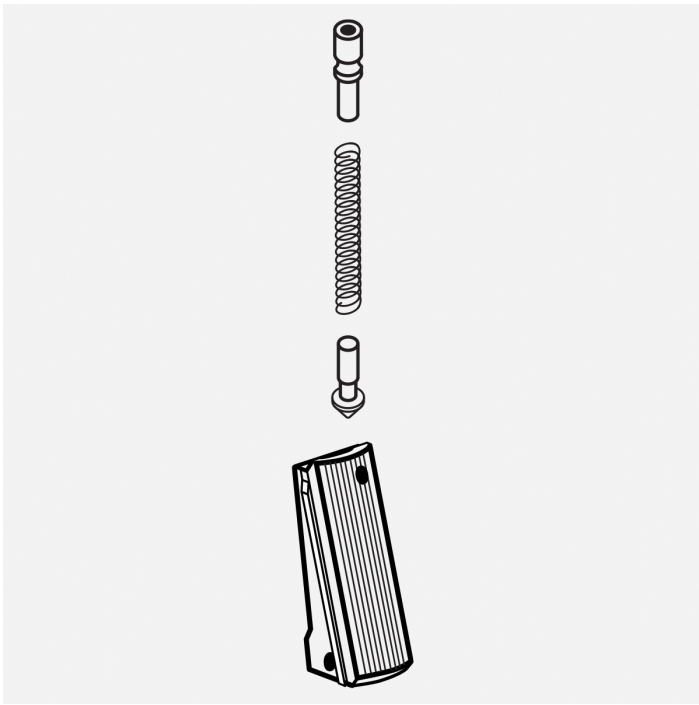

Figure 16-1
2. Carefully depress the cap far enough to allow you to reinstall the takedown pin. (See Fig.16-1).